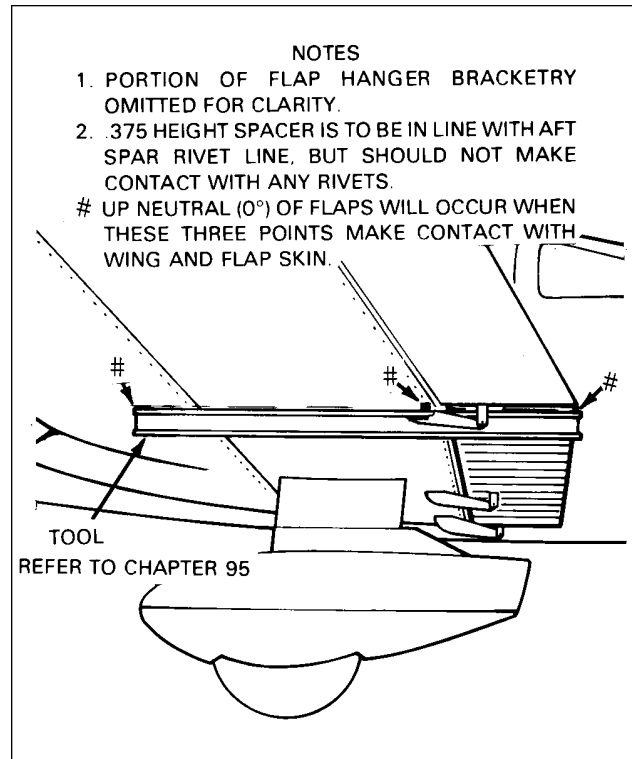

Figure 27-22. Utilization of Flap Rigging Tool
7. To check up-neutral position of the flaps, place a flap rigging tool as shown in Figure 27-22 against the underside of the wing and flap as close as possible to the outboard end of the flap without contacting any rivets. The tool must be positioned parallel with the wing ribs with the aft end of the tool even with the trailing edge of the flap. (This tool maybe fabricated from dimensions given in Chapter 95.)